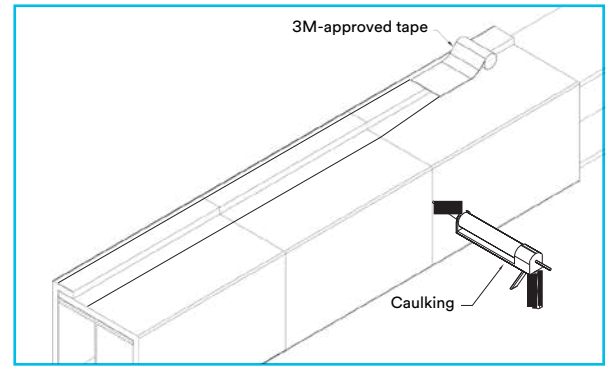

Figure 5
- 4** Repeat steps one through three for the next section of wrap. The next section of E-Mat should be tightly abutted to the first section eliminating all gaps when possible. If a gap of more than 3 mm ($\frac{1}{8}$ in) remains in the perimeter joint between sections of E-Mat, the gap is to be filled to the full depth of the E-Mat with 3M™ Fire Barrier Water Tight Sealant 3000 WT. (Figure 5)